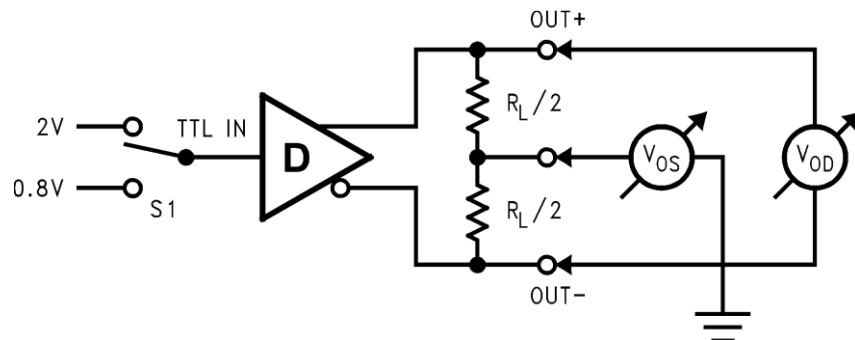
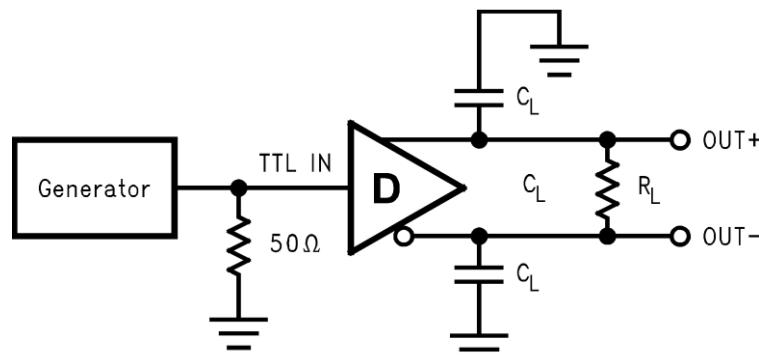

Figure 3. Differential Driver DC Test Circuit
Figure 4. Differential Driver Propagation Delay and Transition Time Test Circuit
3. Figure 3 shows the test circuits used for |V_{OD}| and V_{os} tests, and Figure 4 shows the test circuits used for switching characteristics.